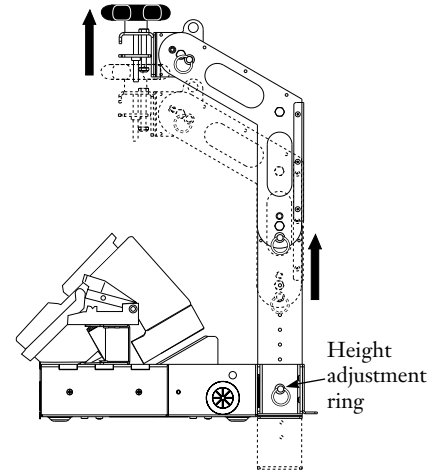

Figure 24
6.1 To prepare the Aerial Splicing Platform for use (Figure 24):